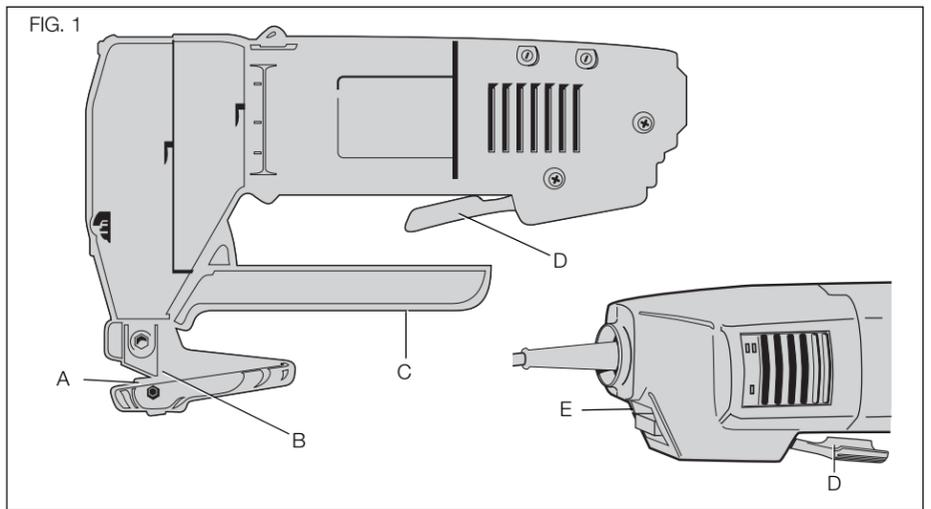

FIG. 2
### Setting the Blades (Fig. 2, 3)
Position the moving blade at the top of its stroke. Adjust the vertical clearance so that the "V" shaped opening appears as in Figure 2.
The upper movable blade (B) must be centered to correspond with the position of the lower fixed blade (A) as shown in Figure 2 by releasing the clamp screw with the key provided.